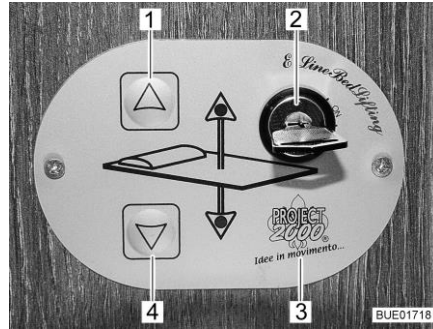

Fig. 139 Control unit
The pull-down bed is raised or lowered using the buttons (Fig. 139,1 and 4) on the control unit (Fig. 139,3). The control unit is protected against unauthorized use with the key switch (Fig. 139,2).
- Turn the key in the key switch (Fig. 139,2) by 90° in a clockwise direction to position "On". The control unit (Fig. 139,3) is activated.
- Press the arrow key (Fig. 139,4) and keep it pressed until the pull-down bed has moved down into the desired position.
- Press the arrow key (Fig. 139,1) and keep it pressed until the pull-down bed has moved down into the final upper position.
If it is no longer possible to move the pull-down bed with the arrow keys (Fig. 139,1 and 4), first of all check the fuses (see section 9.10.1). If the fuses are okay and it is still not possible to move the pull-down bed, the pull-down bed can be operated manually.